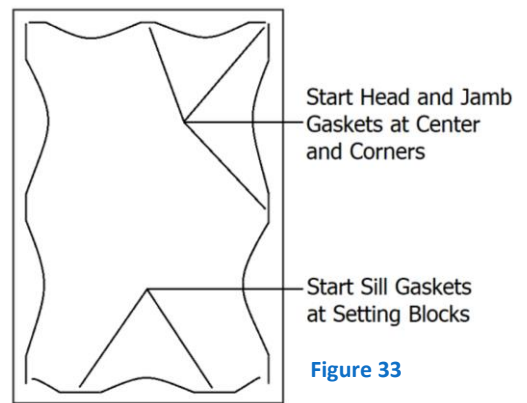

Figure 33
- 2. Install gaskets as per figure 33. Note that interior gasket is installed prior to glass installation, and exterior gasket is installed after glass installation.